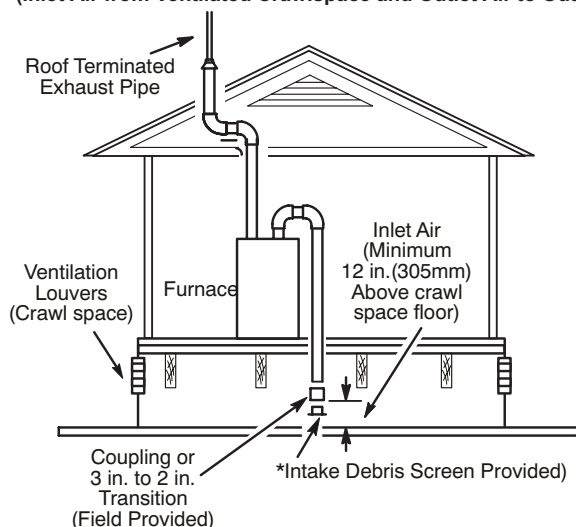

Figure 30
- 2 - If intake air is drawn from a ventilated attic (Figure 299) or ventilated crawlspace (Figure 30) the exhaust vent length must not exceed those listed in table 6. If 3" diameter pipe is used, reduce to 2" diameter pipe at the termination point to accommodate the debris screen.